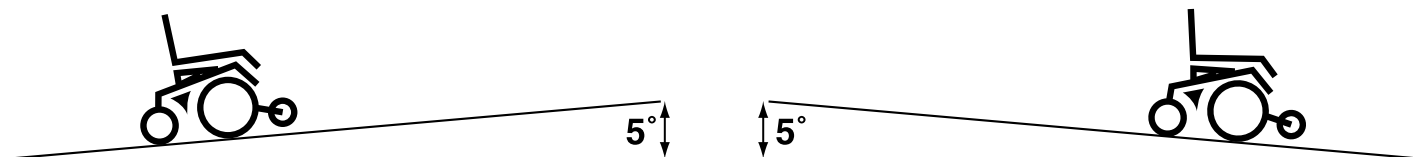

Figure 1. Maximum Safe Angle (Ascending and Descending)
**WARNING! Even though your power chair is capable of climbing slopes greater than those illustrated in figure 1, do not, under any circumstances, exceed the incline guidelines or any other specifications presented in this manual. Doing so could cause instability in your power chair, resulting in personal injury and/or damage to your power chair.**
In compliance with the Americans with Disabilities Act of 1990, all handicap public access ramps are required to have a maximum slope of 5°. Therefore, Pride recommends that the maximum slope of an incline you attempt to safely ascend or descend on your power chair does not exceed 5°. See figure 1.